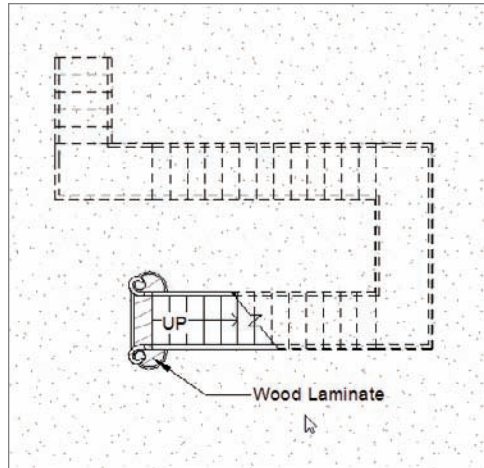

FIGURE 11.98 Placing the material keynote
14. Place the keynote as shown in Figure 11.98.